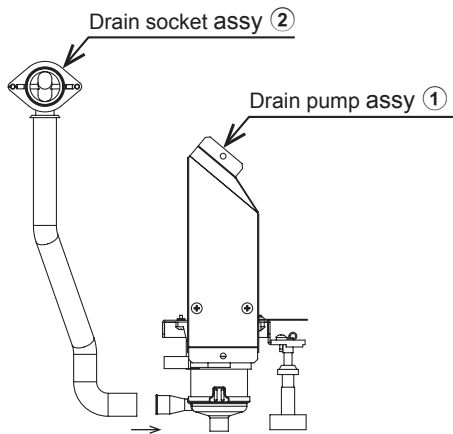

Fig.3-4
- (1) Joint drain socket assy ② and drain pump assy ① (Fig.3-4)